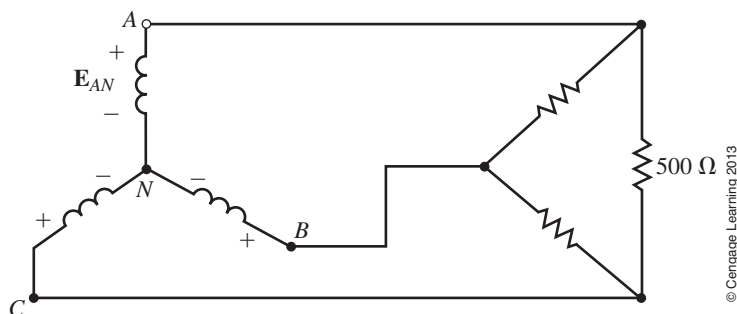

FIGURE 24-51
33. Repeat Problem 32 for the balanced load of Figure 24-51, given $E_{AN} = 120 \text{ V}$.